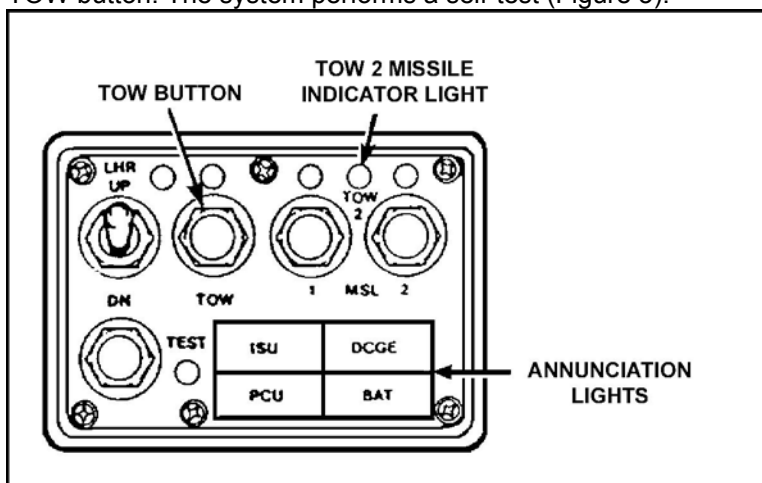

Figure 5. M2A1 TOW control box.
- (1) Make sure that the vertical TOW reticle is between the electronic alignment reticles.
- (2) Make sure that the horizontal TOW reticle is on the electronic alignment reticle.
- (3) If the reticles cannot be seen, readjust the brightness and contrast and press the TOW test button.
- f. Press the TOW button. The system performs a self-test (Figure 5).